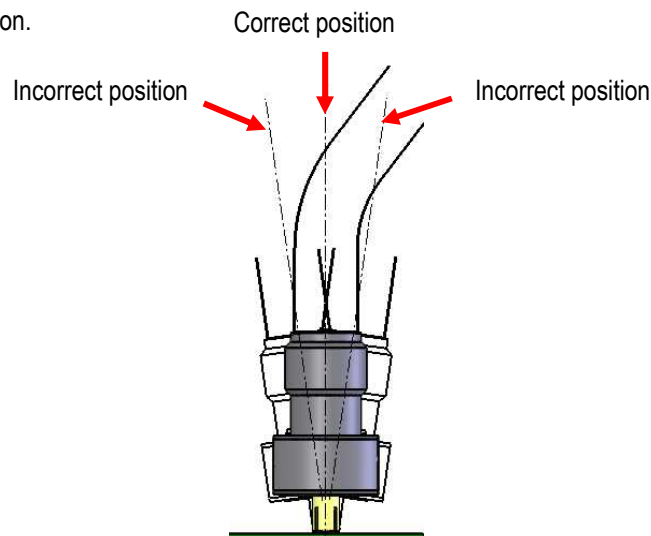

Fig. 11 Inspection adapter position
- The inspection adapter or the RECEPTACLE are damaged by applying the diagonal force, which is generated by the cable connecting measurement instrument and the inspection adapter. Hold the inspection adapter and keep it straight during the measurement. See Fig. 11 for the inspection adapter's position.